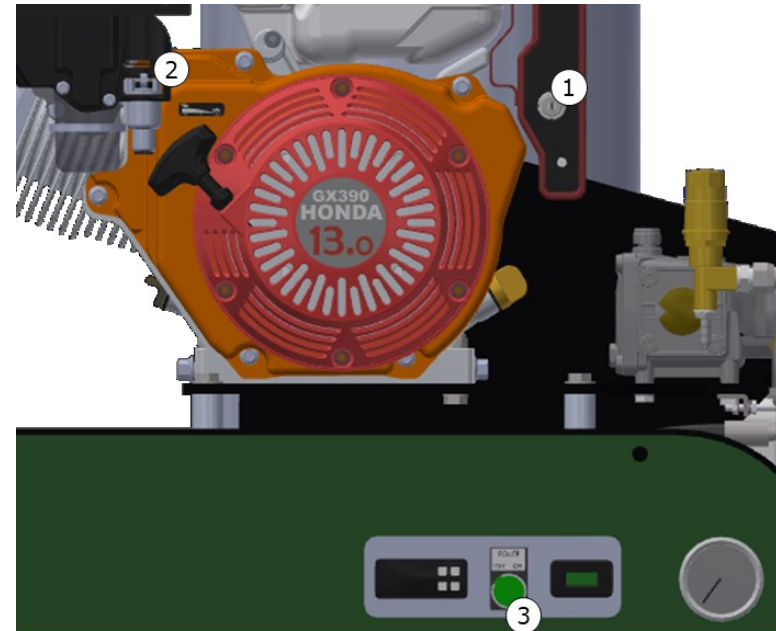

Figure 7 - Details of the switches of the front panel
- Turning the key (1 on Figure 7)
- Or if cold, use the choke and turn the key (2 on Figure 7)
- Turn the boiler switch to "ON" position (3 on Figure 7). The switch will illuminate green, and the boiler will heat up whenever the trigger is pressed.